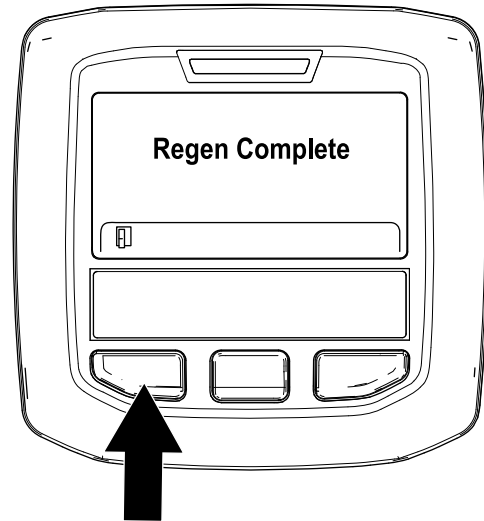

Figure 54
9. The parked regeneration is complete when the "Regen Complete" message displays in the InfoCenter. Press the left button to exit to the home screen (Figure 54).